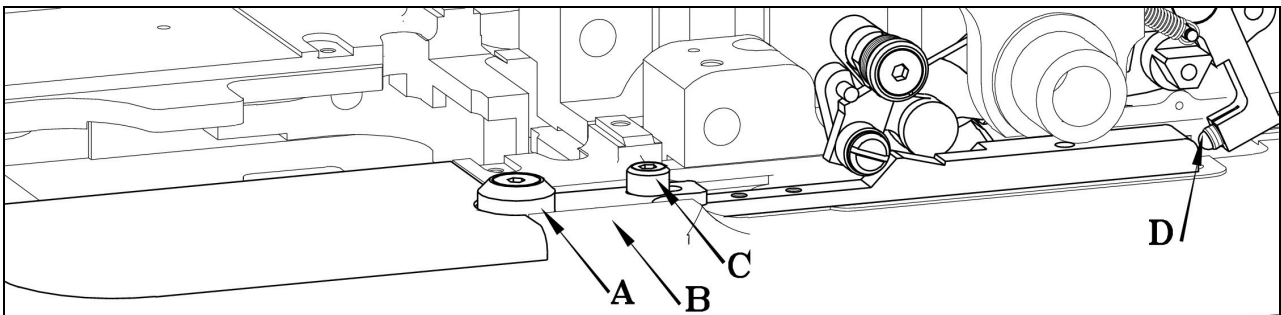

Fig 2
The flybar tacks should be equal in length for the starting and finishing of the buttonhole. It is necessary to adjust the length of the finishing flybar to match the length of the beginning flybar. To adjust the length of the finishing flybar, adjust screw (D) as shown in Fig 2 . Turning the screw out will lengthen the flybar. Turning the screw in will shorten the flybar. THIS ADJUSTMENT IS VERY IMPORTANT FOR PRODUCING A BUTTONHOLE WITHOUT A FLYBAR. PROPER ADJUSTMENT WILL INSURE THAT THE ENDS OF THE BUTTONHOLE ARE EQUAL.